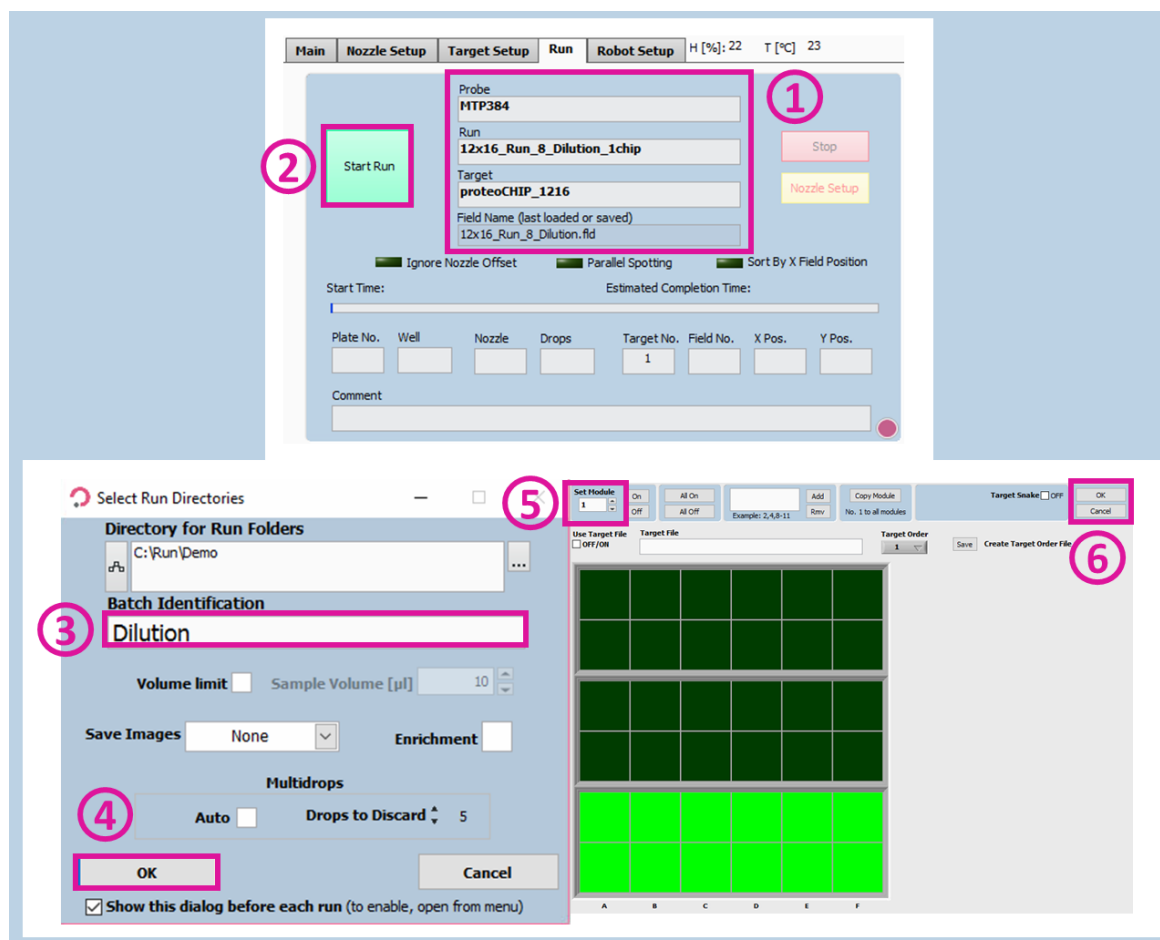

Figure 53: Start dilution run
Check that you selected the right Probe, Run and Target in the Run window (Figure 53 ①). Start the run (Figure 53 ②), select the number of proteoCHiPs that you want to dispense in (Figure 53 ③) and click OK (Figure 53 ④).